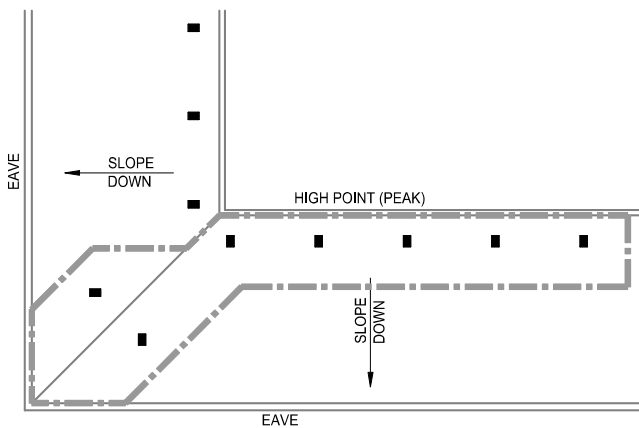

FIGURE 23A: 1 ROW PROTECTION CALCULATION
- Calculate the 5 most hydraulically demanding contiguous DS sprinklers located along the high point plus the 2 most demanding sprinklers along the hip line. See Figure 23A.